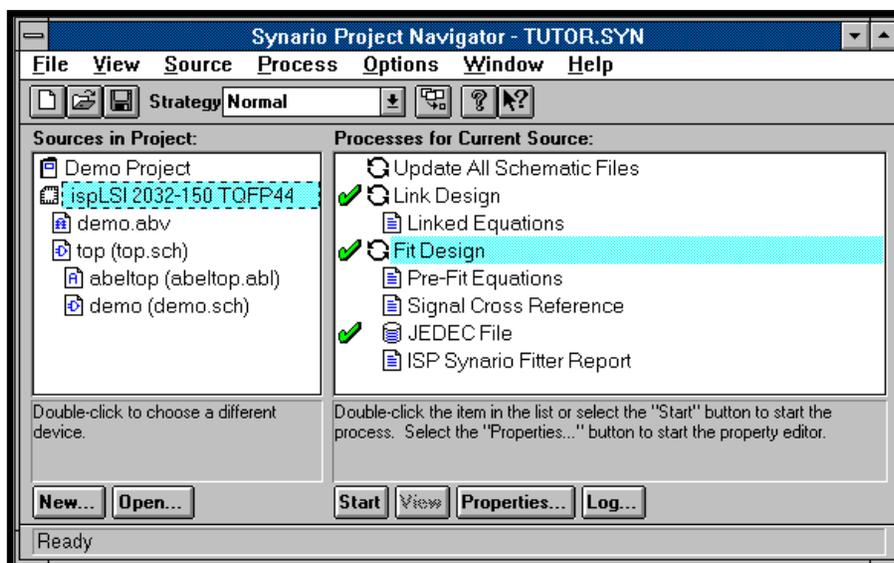

Figure 1-32. Synario Project Navigator After Successful Design Fit
59. In the Processes for Current Source list, double-click on Fit Design. This will force the Navigator to finish compiling the source and to link the source files together before trying to partition and fit the design into a LSC part. The Synario Project Navigator will add check marks to successfully completed processes (Figure 1-32).